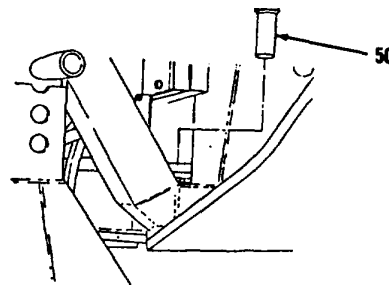

Figure 16-18.
8. Position pin (50, Figure 16-18).